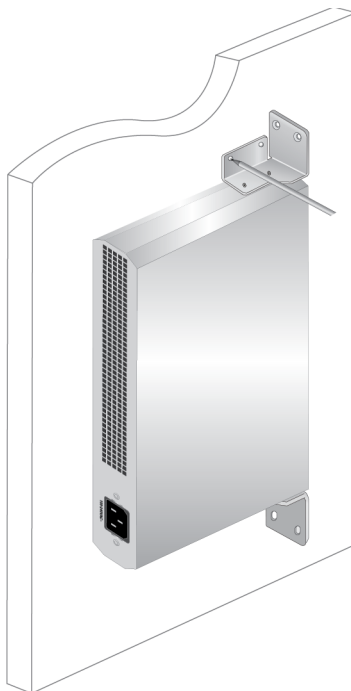

Figure 24. Marking the Screw Hole Locations
5. Have another person hold the switch with the brackets at the wall location where the switch is to be installed, while you use a pencil to mark the wall with the locations of the four holes in the brackets. See Figure 24 as an example.